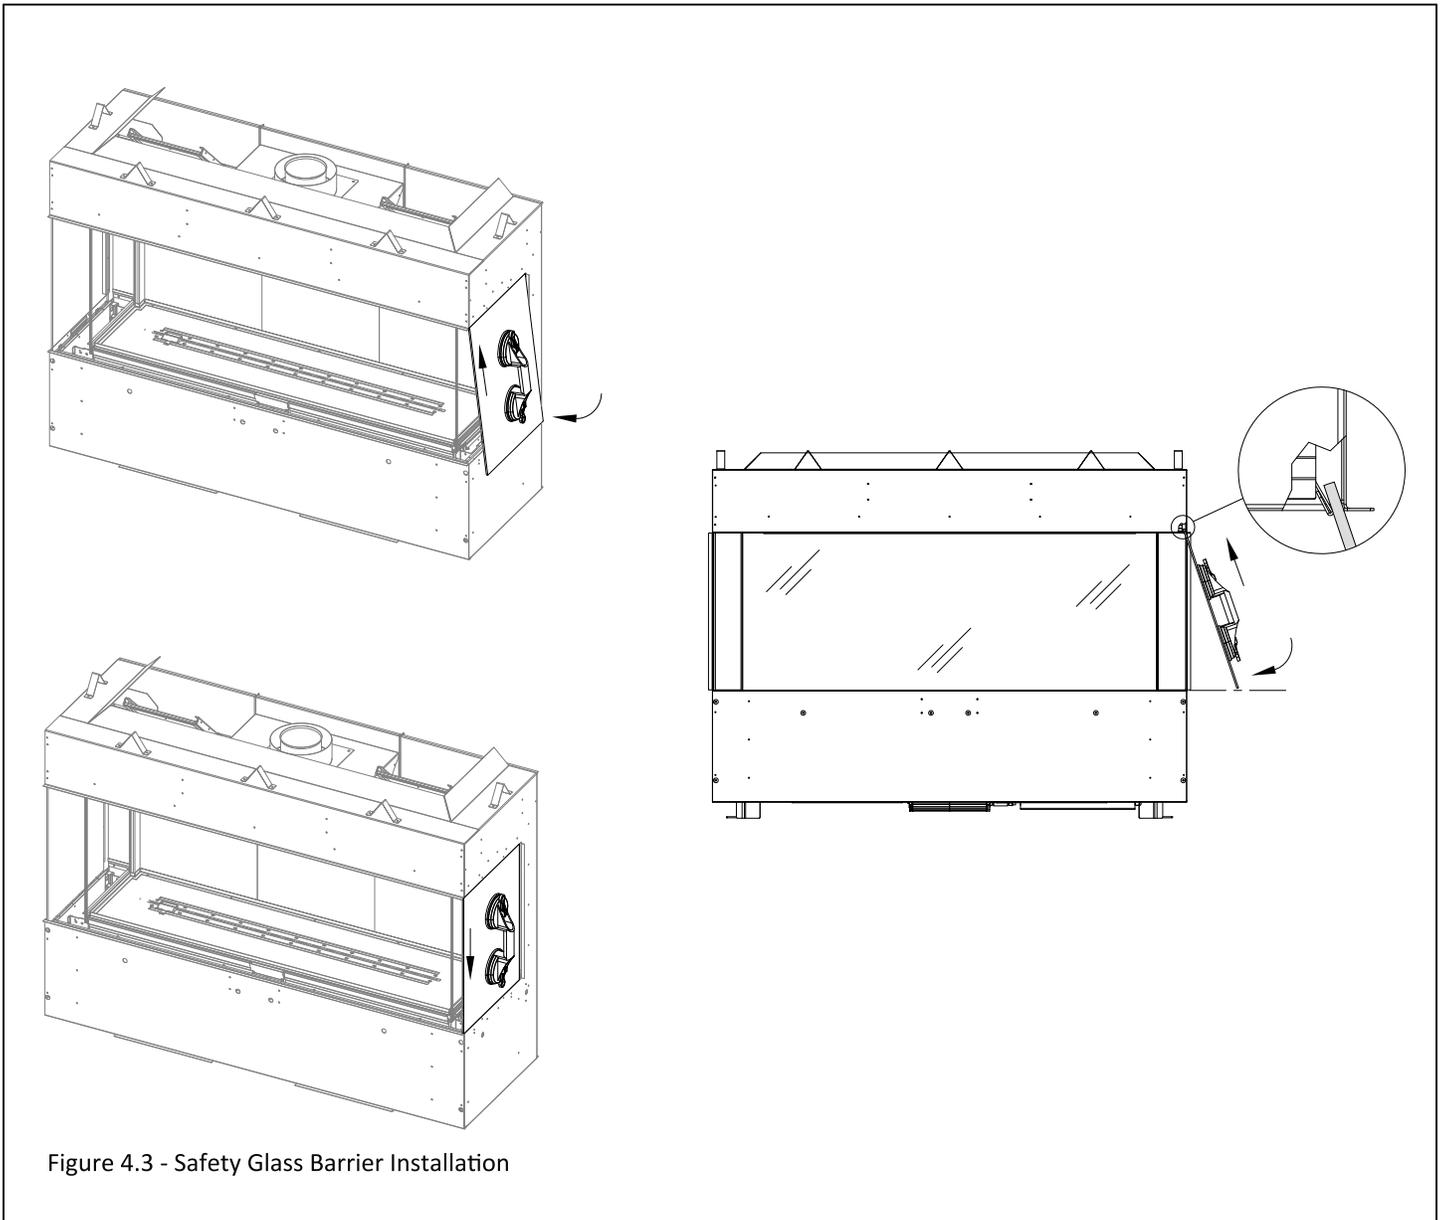

Figure 4.3 - Safety Glass Barrier Installation
1. Install the side safety glass barrier first. Start with the bottom edge of the glass tilted towards you, slide the top edge of the glass behind the top finishing edge of the fireplace. There is a glass bracket behind this top finishing edge (on the inside of the fireplace) that holds the glass. Ensure the glass is sliding into this bracket. See the image on the right in Figure 4.3 for a close up of this support bracket.